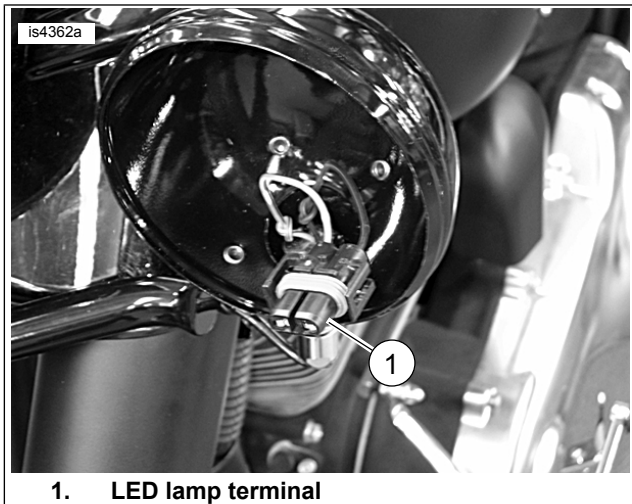

Figure 2. Auxiliary LED Lamp Terminal
- See Figure 2. Place inner nesting ring on bulb. Connect bulb to item (1) connector.